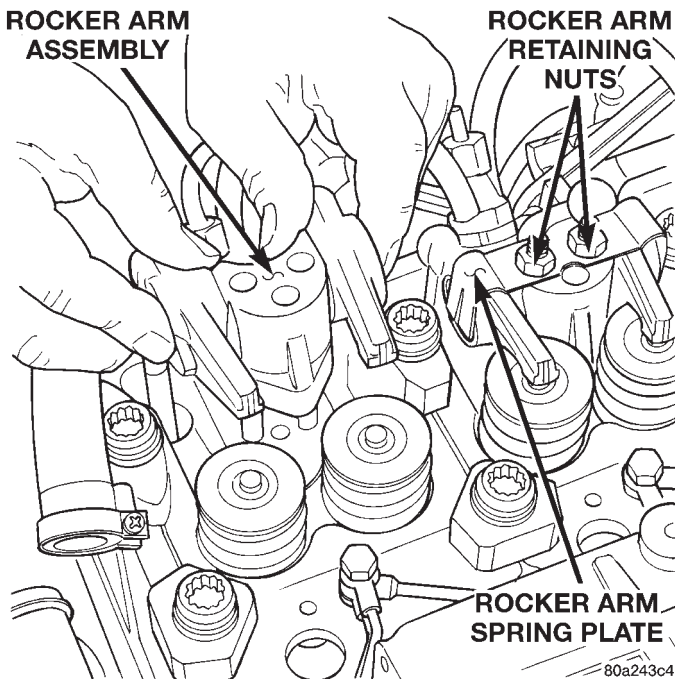

Fig. 16 Rocker Arm Retaining Nut
- (1) Disconnect the battery cables.
- (2) Discharge the air conditioning system, if equipped (refer to Group 24, Heating and Air Conditioning for service procedures).
- (3) If equipped with air conditioning, remove the service valves and cap the compressor ports (refer to Group 24, Heating and Air Conditioning).
- (4) Remove generator bracket.
- (5) Remove breather hose.
- (6) Remove cylinder head cover.
- (7) Remove rocker retaining nut (Fig. 16).